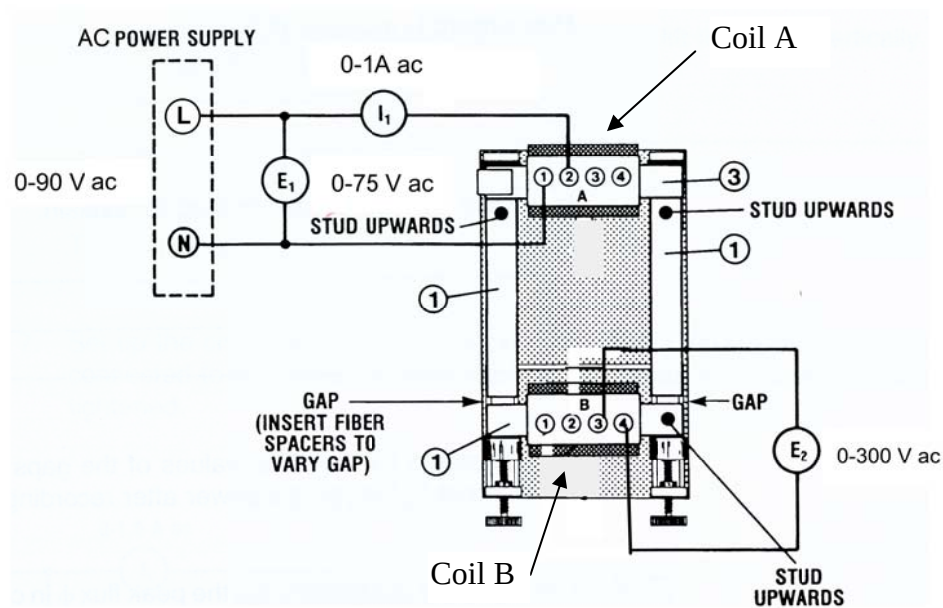

Fig. 2 Circuit to observe the effect of air gaps on AC induction and magnetic coupling
1. Set up the circuit shown in Fig 2. Tighten the screw to reduce air-gaps to a minimum.